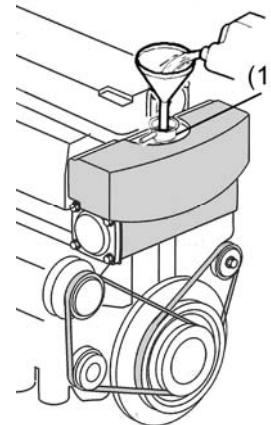

Fig. 4.2.2
Never open the oil plug (1) when the engine is hot since they can leave steam or spurts hot coolant. The engine and to hope to realise the engine change with the already cold one. To see fig 4.2.2.